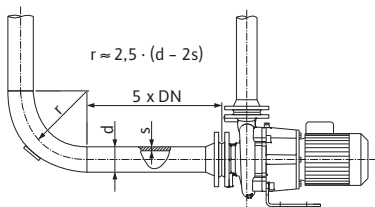

Fig. 3: Settling section before and after the pump
- A settling section must be provided before and after the pump, in the form of a straight pipe. The length of this settling section should be at least 5 x DN of the pump flange (See Fig. 3). This measure serves to avoid flow cavitation.